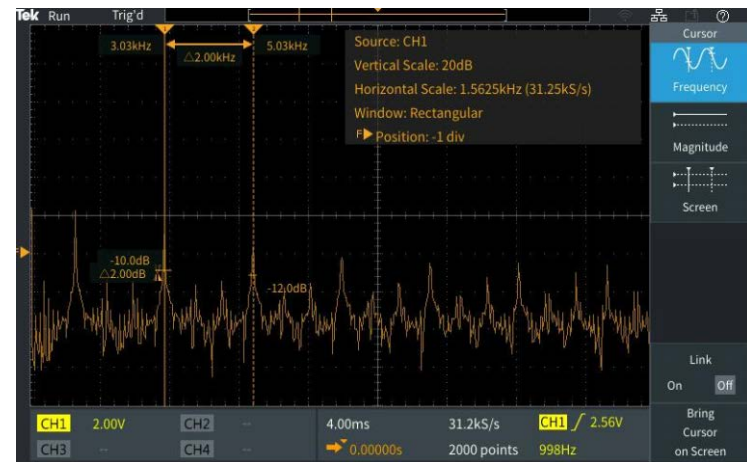

Figure 15. Cursors positioned on the 3 kHz and 5 kHz harmonics of the 1 kHz probe comp output.
9. Press the **Cursor** button and position the cursors on the third and fifth harmonic frequencies (Figure 15).